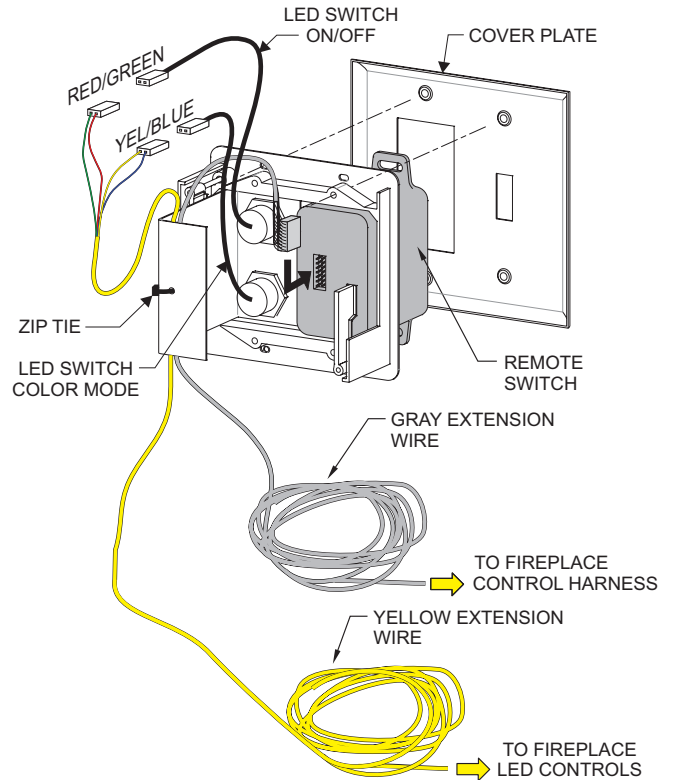

Figure 35
14. Route the yellow LED wire harness with gray remote receiver harness through the bushing. Mount the controls and connect the wiring. Secure wiring with provided zip tie as shown. See Figure 35.